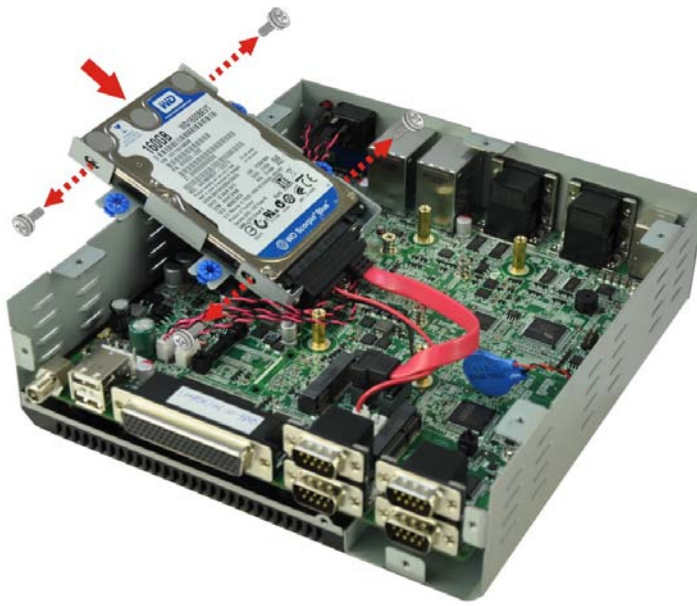

Figure 3-5: Inserting the HDD
Step 7: Slide the HDD to the HDD bracket and secure the HDD to the HDD bracket using four retention screws (**Figure 3-5**).